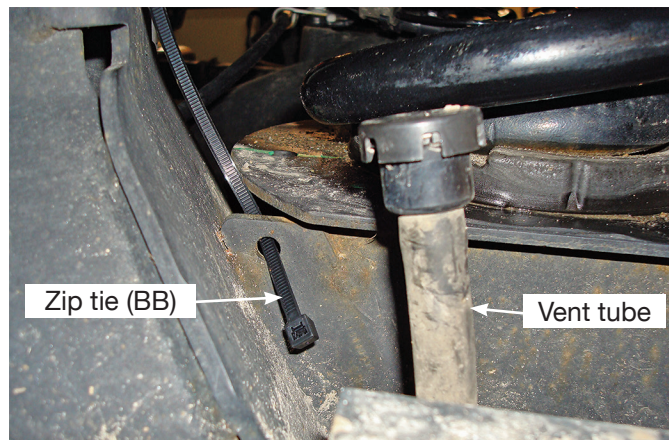

fig. 3
2. On the left (driver's) side axle there is a small vent tube (Fig. 3) that needs to be tied on an angle with a zip tie (BB).